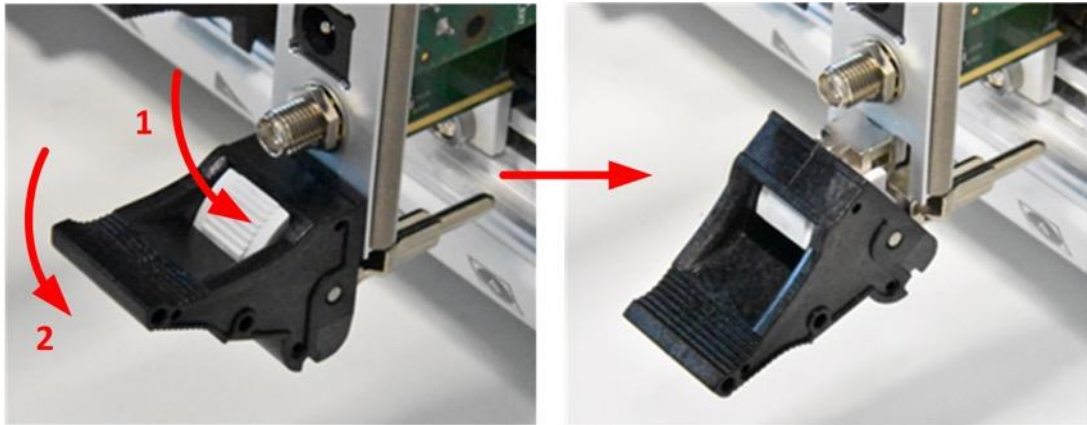

Figure 13: Push the ejector latch down prior to inserting the module
3. Push the ejector handle down (Figure 13) by pressing the grey button (step 1) on the handle and subsequently pushing the black handle (step 2) down.